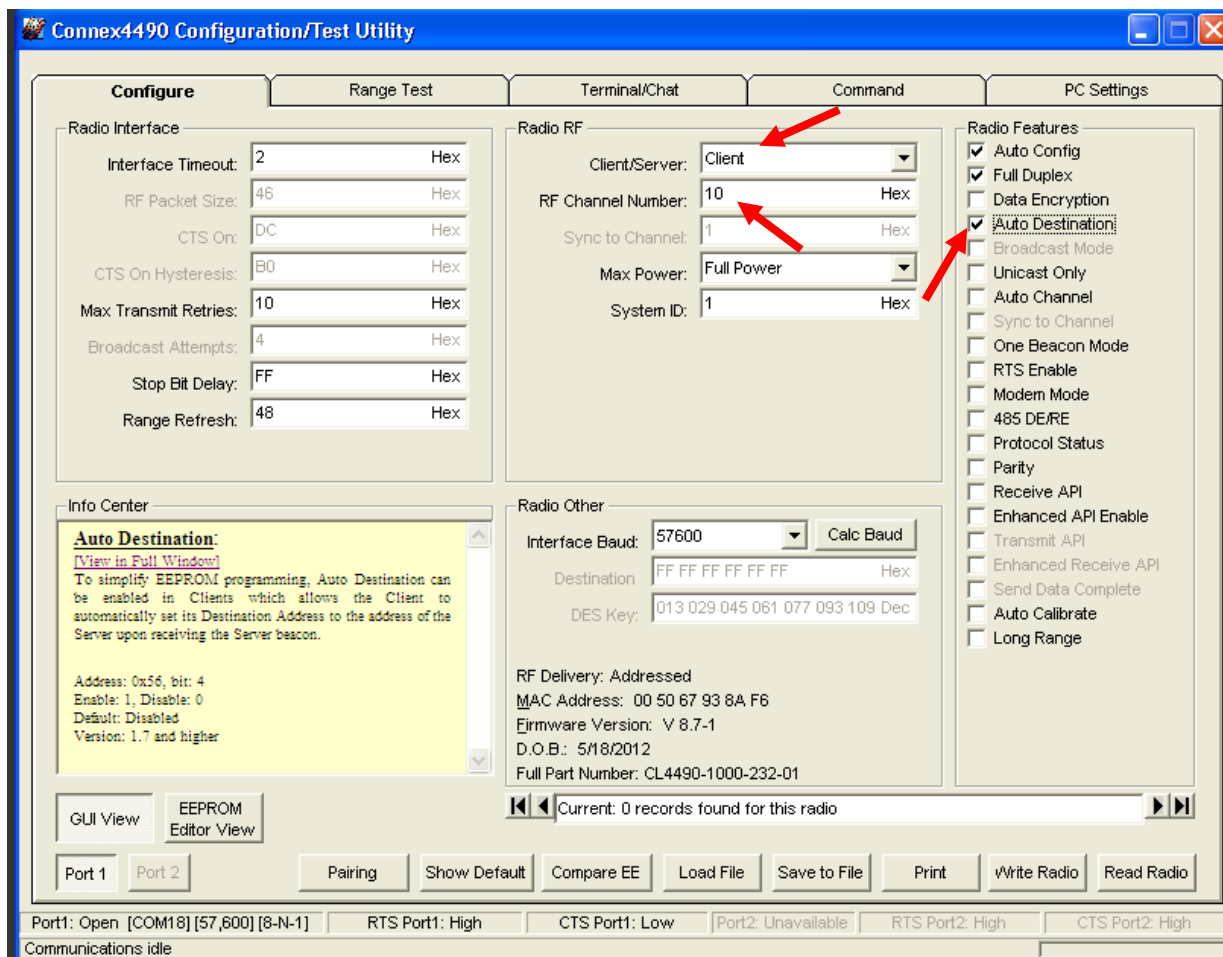

Figure 11: Client settings
8. Configure all clients that will communicate with the Hop Master Server as clients in Auto Destination and with the same RF Channel Number as the Hop Master Server (Figure 11), and then press the **Write Radio** button.